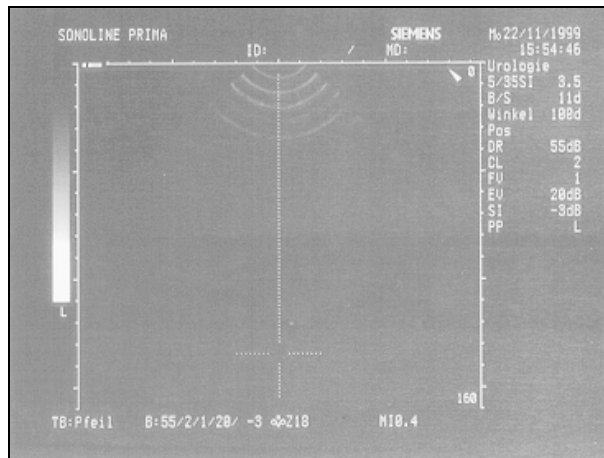

Fig. 3
- When a  or  probe is selected, the following cross (Fig. 3) is displayed.